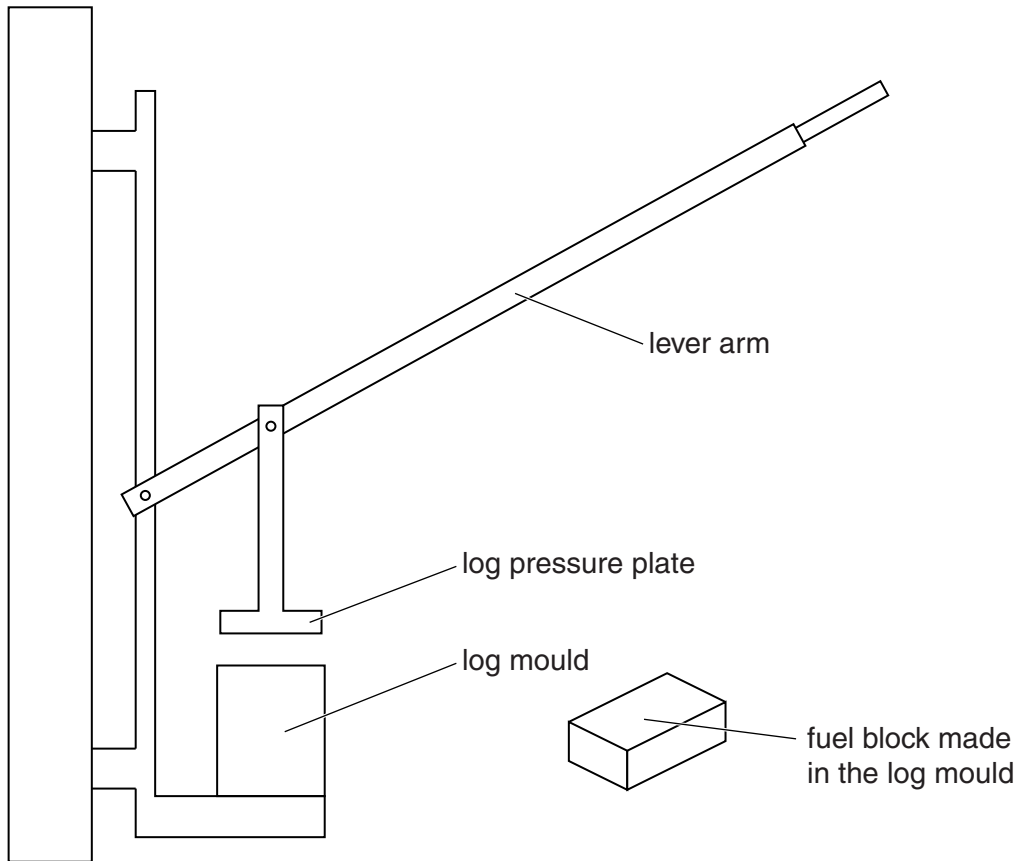

Fig. 1
1 Fig. 1 shows a wall mounted waste paper log maker and a fuel block.
(a) On Fig. 1 label, with arrows, the Load (L) Effort (E) and Fulcrum (F) of the lever arm. [3]